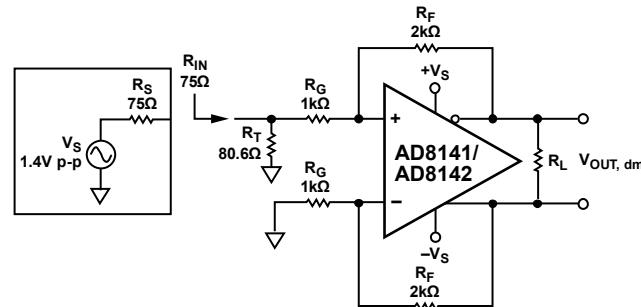

Figure 38. Adding Termination Resistor R_T
3. It can be seen from Figure 38 that the effective R_G in the upper feedback loop is now greater than the R_G in the lower loop due to the addition of the termination resistors. To compensate for the imbalance of the gain resistors, a correction resistor (R_{TS}) is added in series with R_G in the lower loop. R_{TS} is the closest 1% resistor to the Thevenin equivalent of the source resistance R_S and the termination resistance R_T , equal to $R_S||R_T$.